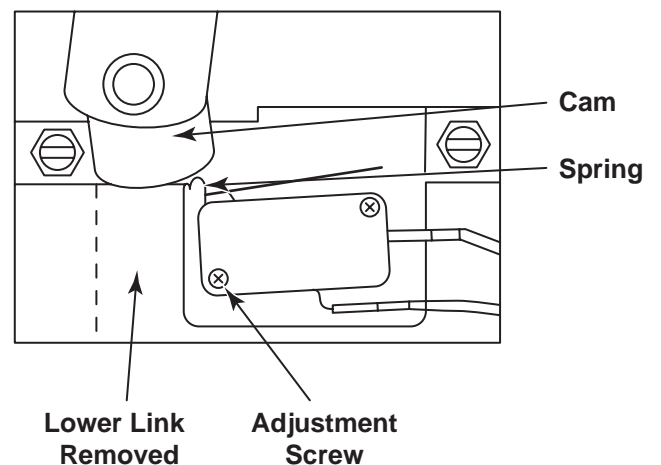

Figure 3-7. Stacker Switch Adjustment
4. Adjust the cam switch by loosening the adjustment screw and rotating the switch until the cam pushes the spring against the switch body as shown in *Figure 3-7*.